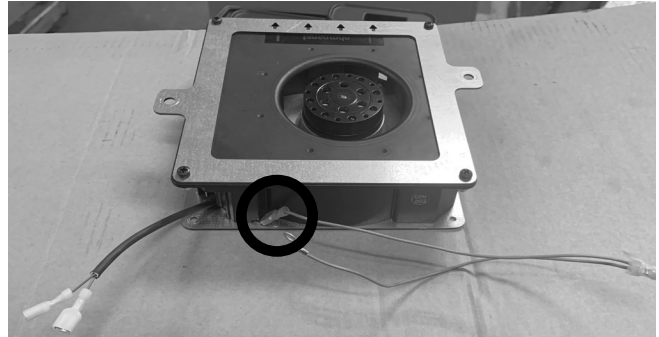

Figure 10.8. Grounding Strap connection point.
3. Attach the pink connectors from the Green Grounding Strap to the prong at the bottom of the blower as shown in fig. 10.8.